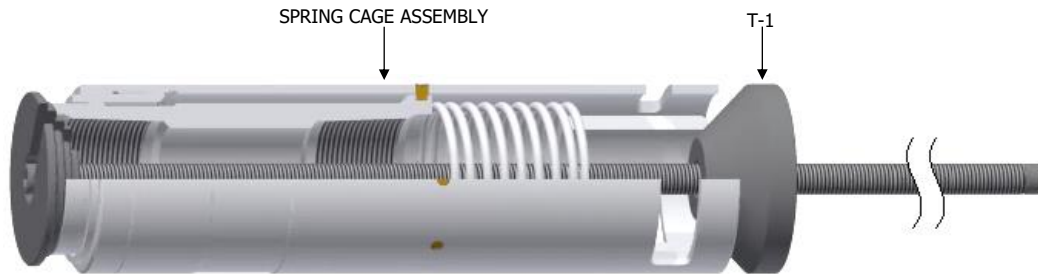

Fig. 1
J-1.17.1) Position assembly tool (T-1) hand-tight against top sub (1) and spring cage (5) of spring cage assembly (Fig. 1).
**CAUTION2:** Compression spring (4) is compressed with tension against spring cage assembly.